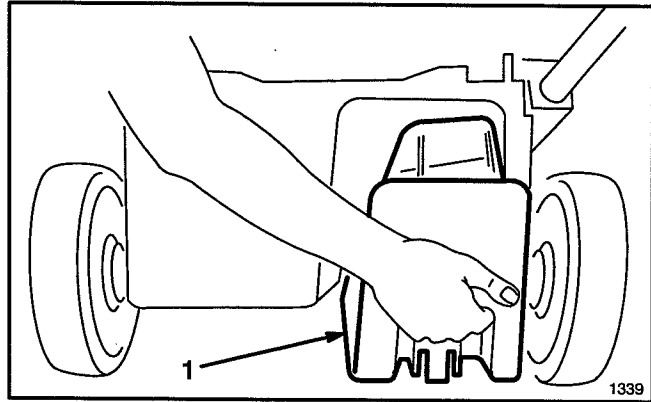

Figure 11
2. Open discharge door and insert plug into discharge tunnel opening (Fig. 11).